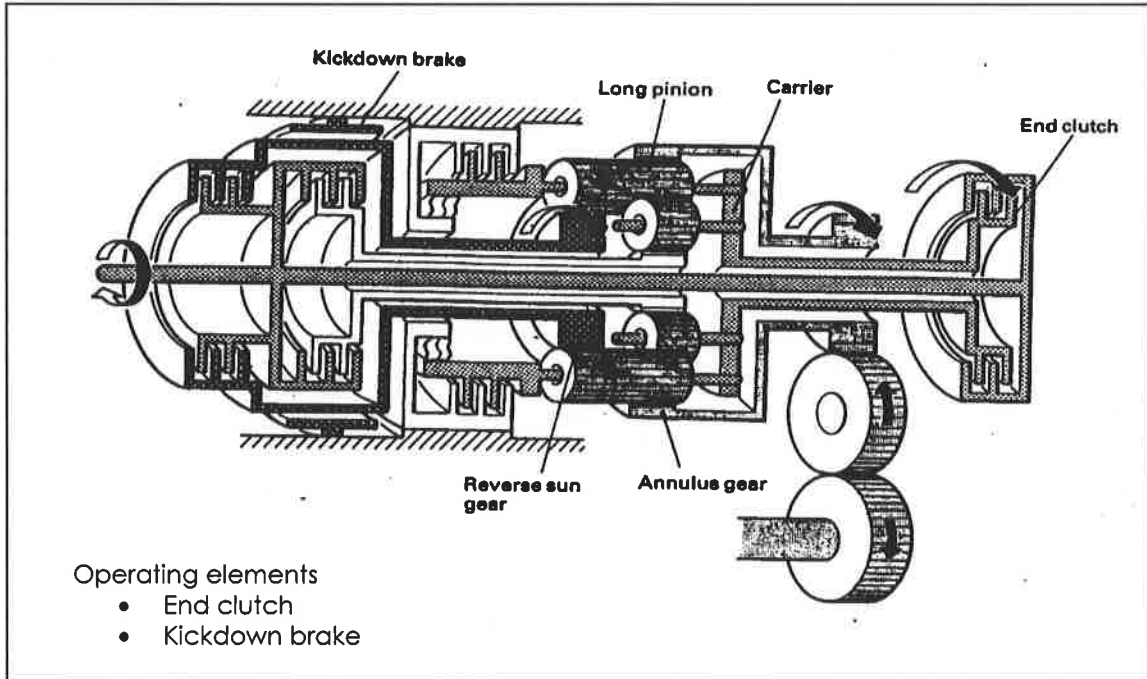

Figure 1: Operating Element in Typical Automatic Transmission
- a) By referring to figure 1, answer the questions below
- iii) Calculate the gear ratio in figure 1 if the number of Annulus gear teeth is 74, forward sun gear is 26, reverse sun gear is 34, short pinion is 22 and long pinion is 20. (Refer to appendix for the suitable gear ratio formula). (4 marks)